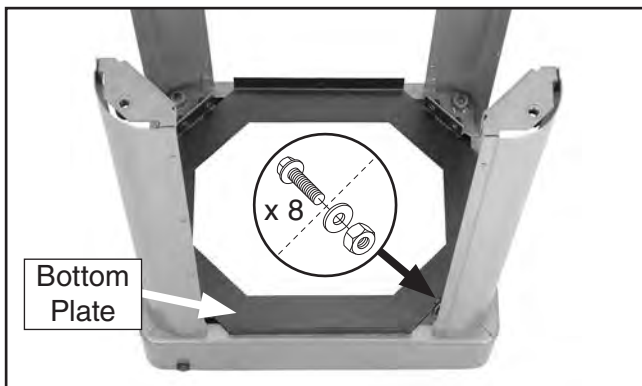

Figure 8. Bottom plate installed.
2. Fasten the bottom plate to the mobile base chassis with (8) M6-1 x 12 flange bolts, 6mm flat washers, and M6-1 hex nuts, as shown in **Figure 8**.